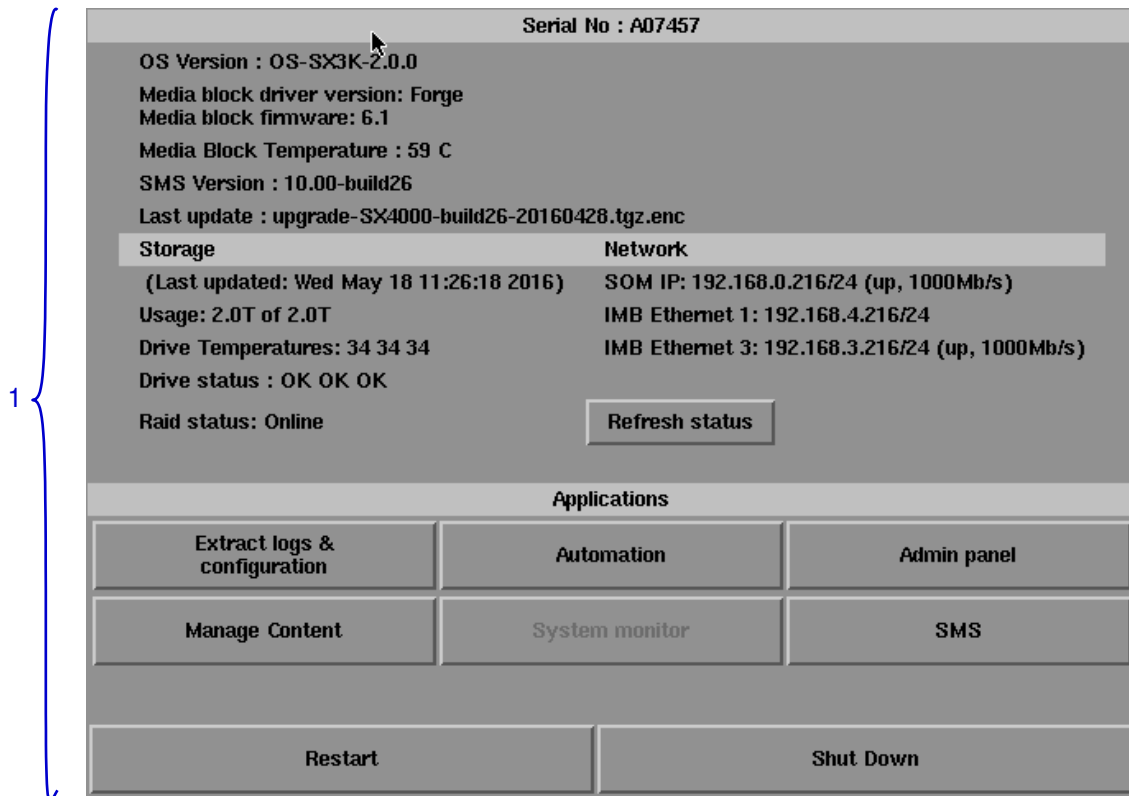

Figure 53 Control Panel
- 1 Switch **ON** the IMB and allow it to boot up to prompt directly to the **SMS** interface. When the SMS interface is shown, press the **Control Panel** button and a new window for the **Control Panel** opens as shown in **Figure 53**. The **Control Panel** includes the **Automation** button, **Admin panel** button, **Manage Content** button, **SMS** button, **Restart** button, **Shutdown** button and a **Refresh status** button. System information including the serial number, OS version, SMS version, network and storage information can also be seen on the Control Panel UI.